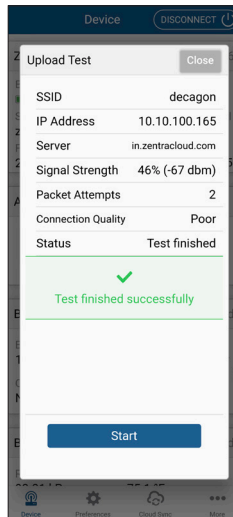

Figure 22 Upload test showing Wi-Fi information
• Communications Tab (Figure 22):